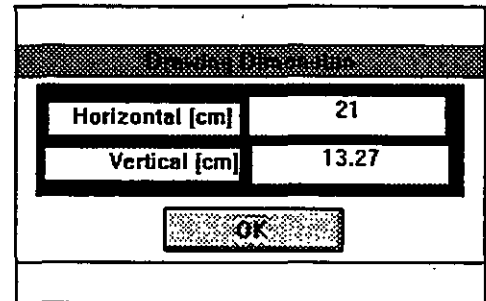

Figure 17-37
In this application you may control the dimensions of a drawing by selecting different horizontal scale (of the XY plane) and by changing the angle of rotation. Changing the vertical scale you will not control the vertical (Y) size of the drawing, or at most you will indirectly change the size. The Drawing Dimension dialogue box looks as shown in Figure 17-37.